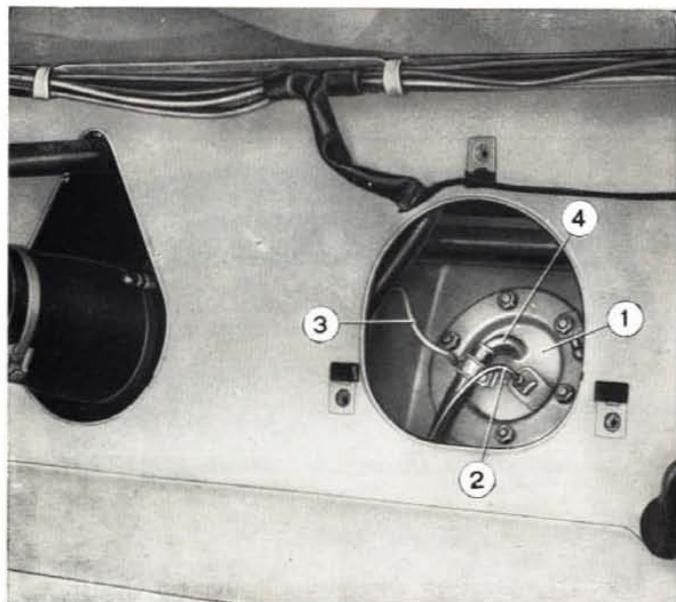

Fig. 373 - Fuel gauge.
- disconnect cables (2 and 3, fig. 373) and line (4);